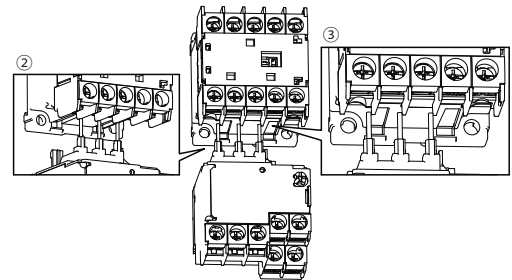

Figure 4
I. Mounting [Figure 4]
II. Removing [Figure 4]